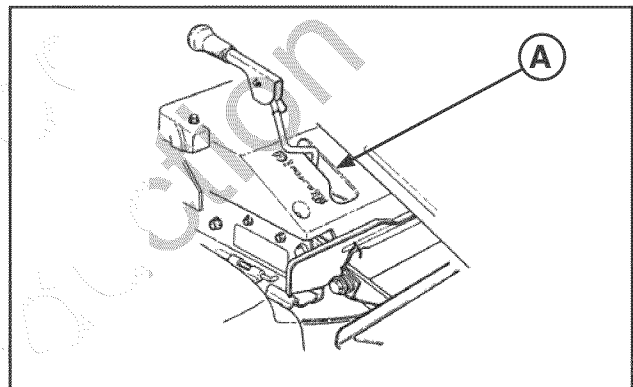

FIGURE 5
2. Make sure the blade lever (**A**, Figure 5) is in the **OFF** position.